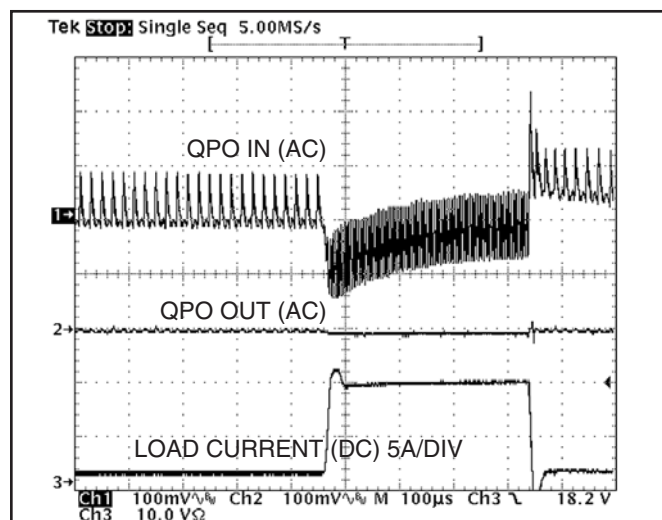
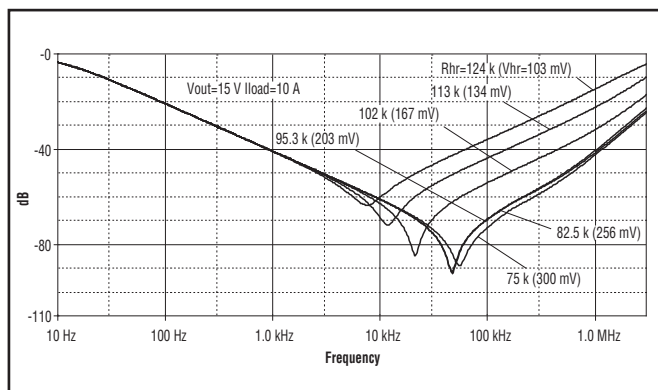

Figure 2 – Typical performance with a 3.3 Volt converter, showing 1 to 10 A load step.
Figure 6 – Attenuation for different headroom settings with value of R_{HR} and V_{hr} .
The scope photo in Figure 2 is an example of the ripple reduction and transient load improvement provided by the QPO-1.
The QPO-1's closed loop architecture greatly improves load transient response of the converter while ensuring steady-state precise point of load voltage regulation. The headroom setting of the QPO-1 filter dramatically reduces the capacitance needed at the converter output to provide equivalent transient performance and ripple reduction. Figure 2 demonstrates how the QPO-1 can be an ideal solution for noise sensitive applications providing ripple and noise reduction and improved output regulation with high transient loads.
Figure 6 shows the headroom versus attenuation relationship of the QPO-1 for a 15 Volt output. This relationship is relatively constant over the full output voltage rating of the QPO-1 so Figure 6 can be used to select headroom voltage for any converter output voltage in the 3 to 30 Volt range of the QPO-1.
The final headroom voltage selection should be based on the maximum expected ripple, desired attenuation and transient response needed. Formulas for the slope adjust Rsa and Rsc values will be provided in their respective sections. The headroom adjustment shown in Figures 6 and 7 show increasing headroom voltage will increase the attenuation over the range of 10 kHz to over 1 Mhz.
To ensure sufficient headroom during a transient load change additional headroom voltage may be required to provide margin and cover the instantaneous drop in the converter output. In the example shown in Figure 2, an additional 75 mV was included with the headroom value selected from the graph in Figure 6 to cover the transient drop-in the supply output during the 10 Amp step.
In this example 300 mV was chosen as a reasonable value to set the headroom (V_{HR}) since it is at the point of diminishing returns based on the attenuation graph in Figure 6. To stay within the dynamic range required by the active loop during the load transient, a total of 375 mV was used in the R_{HR} formula to determine the value of the R_{HR} resistor. The peak detector will dynamically add 30 mV (derived from the 60 mV peak to peak input ripple) to the static headroom setting, providing the total dynamic headroom of approximately 405 mV with the detector enabled.
- No slope adjust, no peak detect, fixed headroom, attenuation vs headroom graph in Fig. 6 and 7 apply